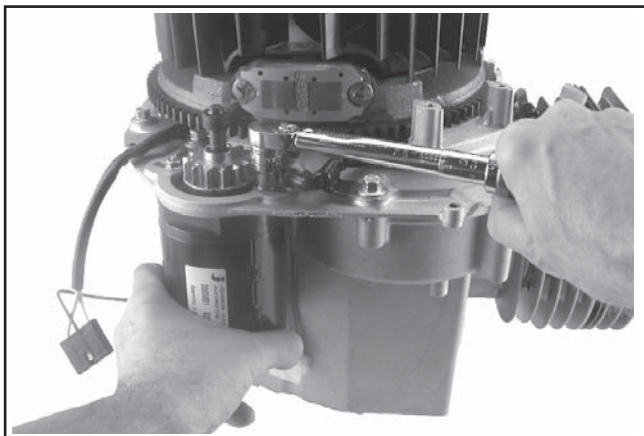

Figure 10-52. Installing Electric Starter.
1. Install the electric starter to the closure plate and secure with the two #10-24 hex nuts. Make sure the wires are clear of any moving parts and torque the hex nuts to **3.6 N·m (32 in. lb.)**. See Figure 10-52.